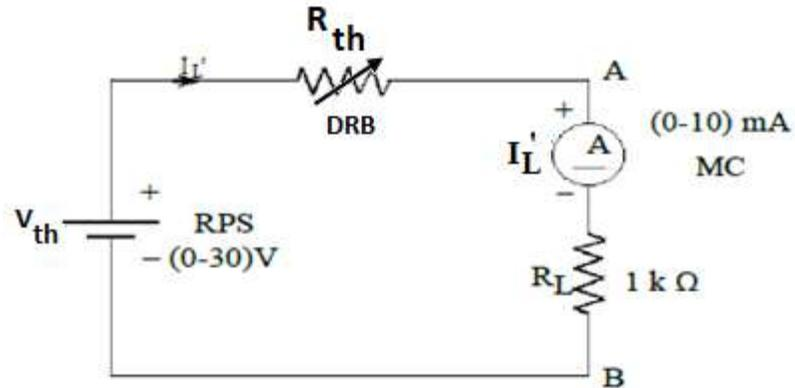

Fig 1.5
- Disconnect the circuit and connect as per the Fig. 1.5.